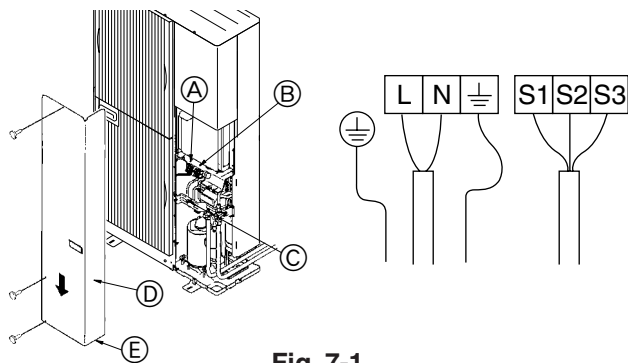

Fig. 7-1
7.1. Outdoor unit (Fig. 7-1)
- ① Remove the service panel.
- ② Wire the cables referring to the Fig. 7-1.